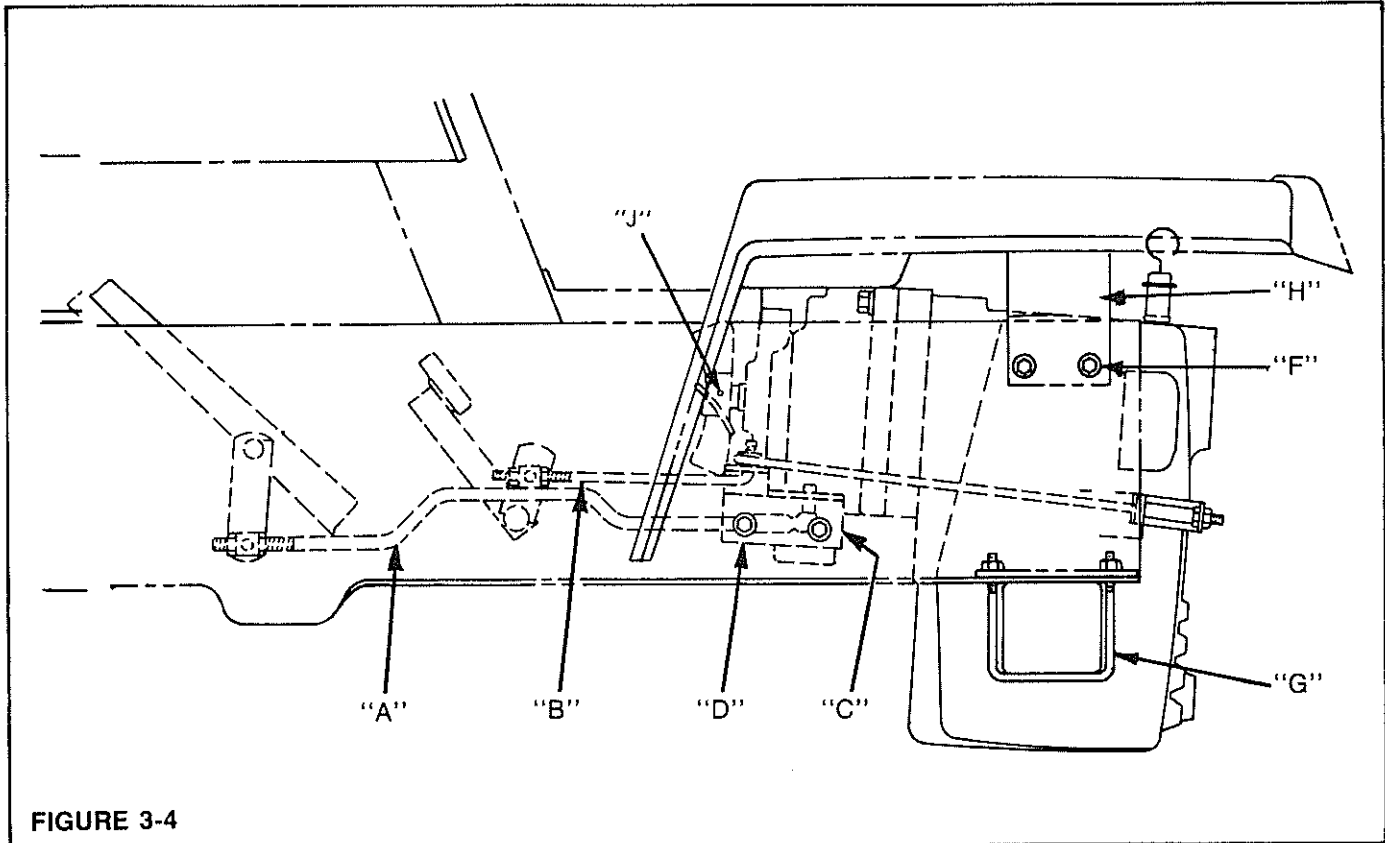

FIGURE 3-4
1. Position quadrant support plate (D) and linkage into place before assembly.
3. Stabilize the transaxle by temporarily installing a mounting screw and nut into one of the top left hand transaxle support holes (F) Figure 3-4 in the frame.
4. Position the quadrant support plate in place using the scribed line (D) Figure 3-4 and tighten. Plate must be parallel with frame after assembly.
5. Position the two (2) axle U-bolts (G) in place with the flat support spacer and turn the nuts on a short ways.
7. Remove mounting screw (F) and nut assembled earlier.
8. Position seat support bracket (H) over the frame and fasten the 4 remaining mounting screws and two (2) nuts into the frame.
9. Tighten the four (4) U-bolt nuts.
11. Secure the brake rod (A) in the lower hole of the cross shaft arm with the cotter pin removed earlier.
12. Secure hydrostatic control rod (B) Figure 3-4 in place with the washer and cotter pin removed earlier.
13. Reconnect and tighten the two (2) hydraulic tubes to the hydro. Refasten the two (2) seat switch wires in place. **NOTE:** Keep wires clear of fan.
17. Block up rear of tractor carefully. Place travel pedal into the neutral position. Start the engine and release the brakes. If the wheels move in forward direction move quadrant support plate (D) Figure 3-4 toward front of tractor. If the wheels move in reverse direction move the support plate towards rear of tractor.